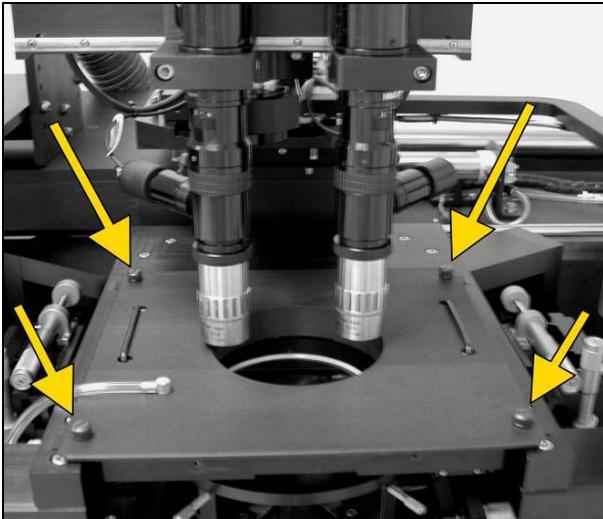
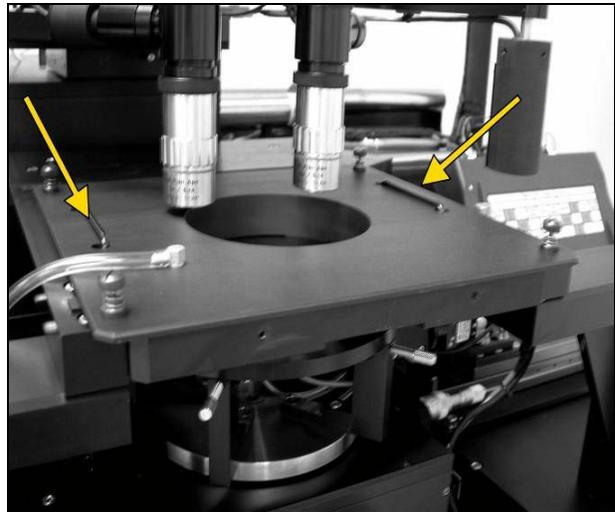

Figure 9-5 Mask Holder Screws
Figure 9-6 Holder handles
STEP 3- Mask holder removal. Unscrew the four screws on top of the mask holder (Figure 9-5) they are easily unscrewed by hand. The screws will not screw out entirely; please do not attempt to pull them out completely. Once they are unscrewed pull up on mask holder handles (Figure 9-6) and slowly pull the holder forward. Be cautious of the top optics cameras as there is very little clearance between them and the mask holder. **Please be extra careful if there is a mask in the holder. When the mask vacuum is turned off it is VERY easy for the mask to fall off the holder. It is a good idea to keep your hand under (but not touching) the mask as it is pulled out.**